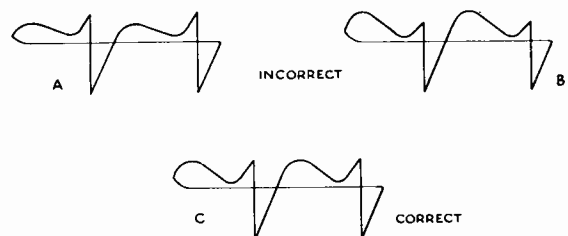

Figure 14—Horizontal Oscillator Wave Forms
B.—Connect the low capacity probe of an oscilloscope to terminal C of T110. Turn the horizontal hold control one-quarter turn from the clockwise position so that the picture is in sync. The pattern on the oscilloscope should be as shown in Figure 14. Adjust the waveform adjustment core of T110 until the two peaks are at the same height. During this adjustment, the picture must be kept in sync by readjusting the hold control if necessary.